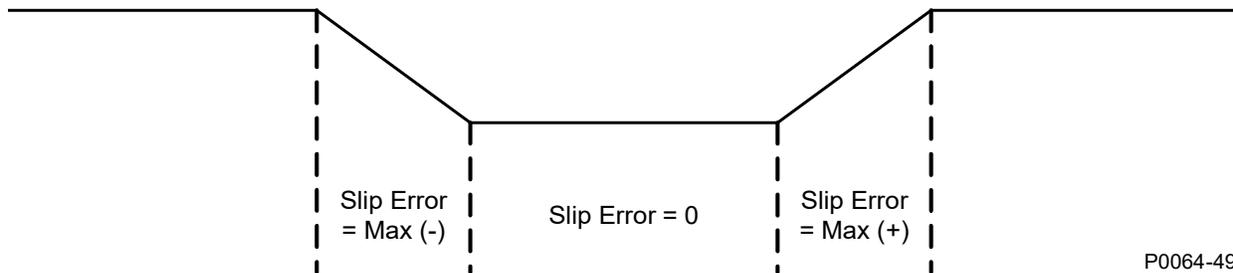

Figure 43-1. Slip Frequency Error
Generator frequency correction is defined by the Slip Frequency setting and further refined by the Breaker Close Angle setting (available in PLL mode only). The Slip Frequency setting establishes the maximum allowable deviation of the generator speed (frequency) from the bus frequency. The Minimum Slip and Maximum Slip settings are used to calculate the slip frequency error and to provide slip frequency control while in phase lock synchronization. If the slip frequency magnitude is above the Maximum Slip setting, the error is set equal to the Max Error in the opposite polarity. If the slip frequency magnitude is below the Minimum Slip setting, the slip frequency error is zero (0). When it is between the two settings, the error is calculated internally by the BE1-FLEX. Slip frequency error is shown in Figure 43-1.